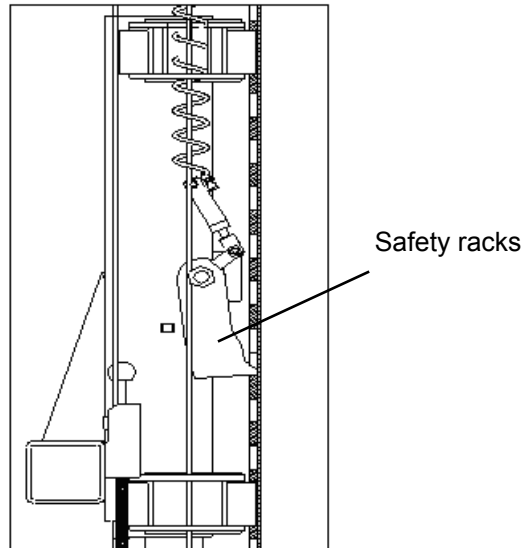

Fig. 16
- Mechanical safety racks. (Fig.16 -19)